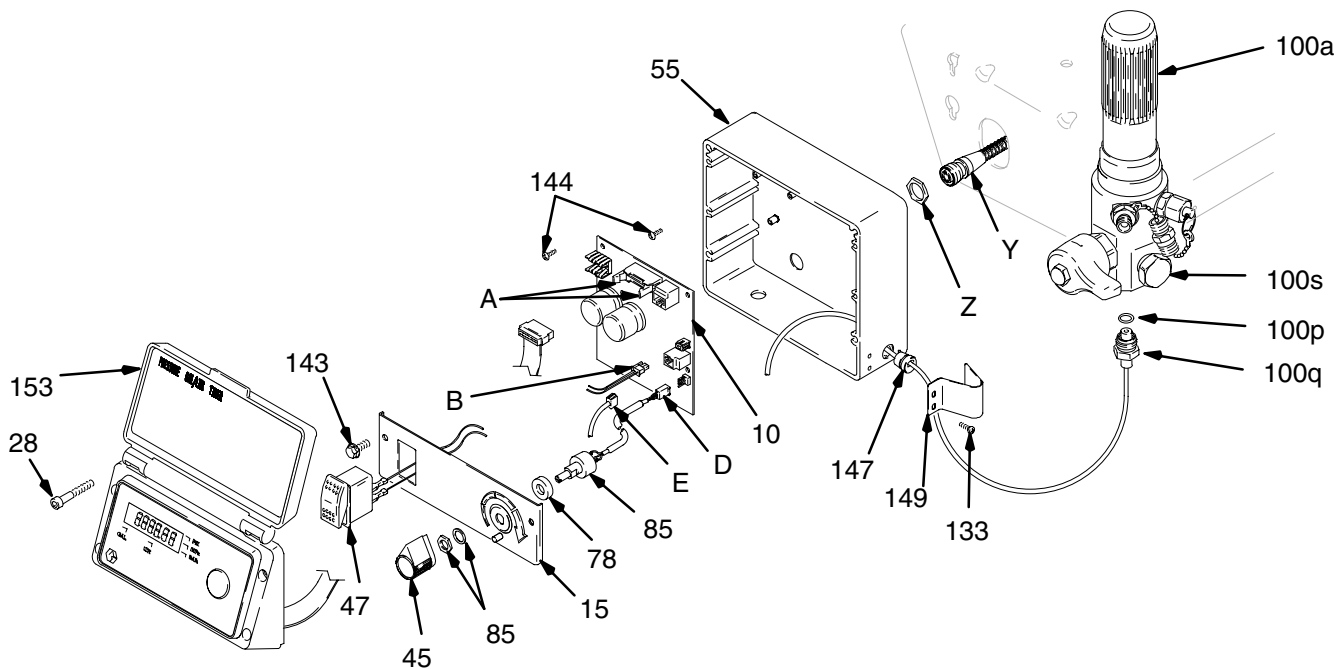

Fig. 14
2. Fig. 14. Remove four screws (28) and display/cover (153).
3. Pull display connector wings (A) open on PC board and pull display connector out.
4. Disconnect ON/OFF switch connector (B) from PC board.
5. Press in on two retaining tabs on each side of ON/OFF switch (47) and remove switch.
- Fig. 14. Remove four screws (28) and display/cover (153). Pull display connector wings open on PC board and pull display connector out.
- Lead (D) from potentiometer.
- Lead (E) from transducer.
- Remove ON/OFF switch (47) connector (A).
- Fig. 14. Remove six screws (144) from control board (10) and green ground wire.
- Remove connector (Y) at backside of pressure control. Remove jam nut (Z) and control board (10).
- Fig. 14. Install control board (10) and jam nut (Z). Install connector (Y) at backside of pressure control.
- Install green ground wire and control board (10) with six screws (144).
- Connect ON/OFF switch (47) connector (A).
- Lead (E) to transducer.
- Lead (D) to potentiometer.
- Fig. 14. Push display connector into PC board close display connector wings on PC board. Install display/cover (153) with four screws (28).
- Fig. 14. Remove four screws (28) and display/cover (153).
- Disconnect lead (E) from control board (10).
- Remove two screws (133) and transducer guard (149) from control housing (55). Pull transducer connector through rubber grommet (147).
- Fig. 14. Install o-ring (100p) and pressure control transducer (100q) in filter housing (100e). Torque to 30–36 ft-lb.
- Install transducer connector and rubber grommet (147) in control housing (55). Install transducer guard (149) on control housing with two screws (133).
- Connect lead (E) to motor control board (10).
- Install display/cover (153) with four screws (28).
- Disconnect lead (D) from control board (10).
- Loosen set screws on potentiometer knob (45) and remove knob, shaft nut, lockwasher (85) and pressure adjust potentiometer (85).
- Remove seal (78) from potentiometer (85).
- Install seal (78) on potentiometer (85).
- Fig. 14. Install pressure adjust potentiometer (85), shaft nut, lockwasher (85) and potentiometer knob (45).
- Turn potentiometer shaft (85) clockwise to internal stop. Assemble potentiometer knob (45) to strike pin on plate (15).
- Connect lead (D) to control board (10).